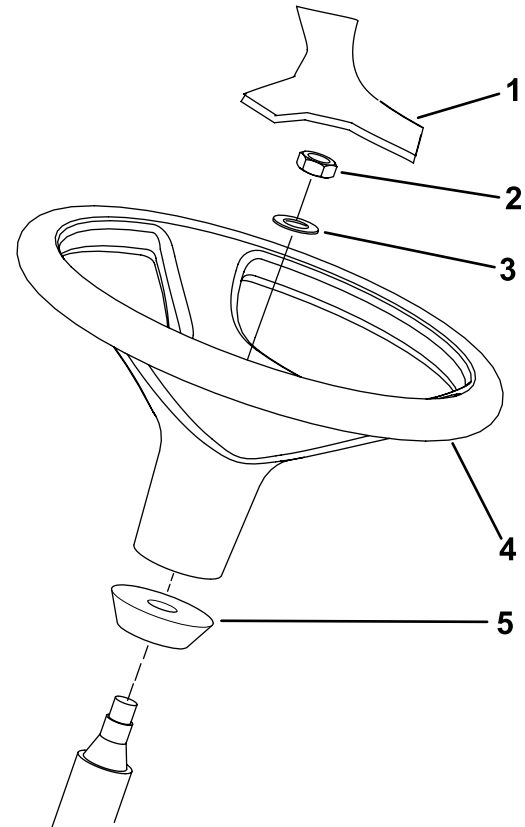

Figure 13
1. Remove the steering wheel from the shipping skid (Figure 13).
**Note:** Ensure that the foam collar remains on the steering shaft (Figure 13).
3. Slide the steering wheel and washer onto the steering shaft (Figure 13).
5. Mount the cover to the steering wheel (Figure 13).